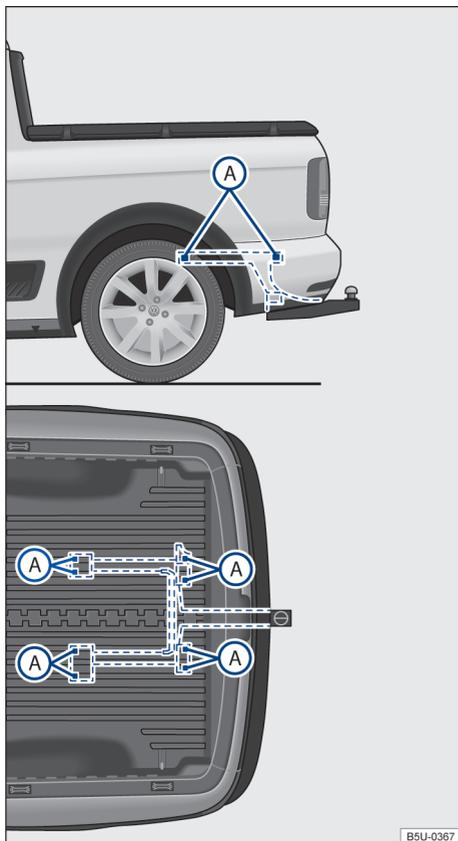

Fig. 124 Attachment points for retrofitting a towing bracket.
Figure → Fig. 124 illustrates, as an example, the fastening point to retrofit a towing bracket in the New Saveiro model.
Towing bracket retrofitting must be executed in accordance with the instructions provided by the bracket's manufacturer, always considering the attachment points indicated in → Fig. 124 (A).